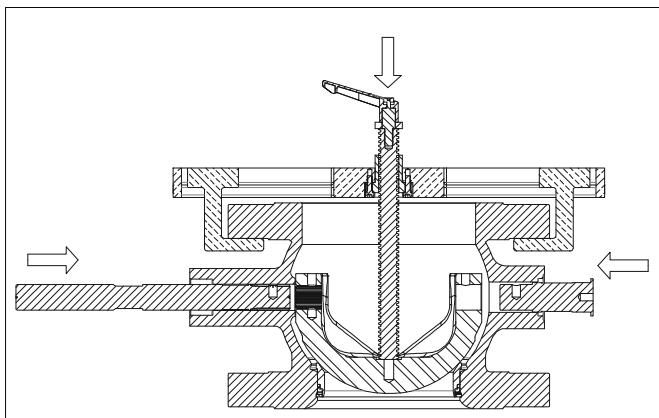
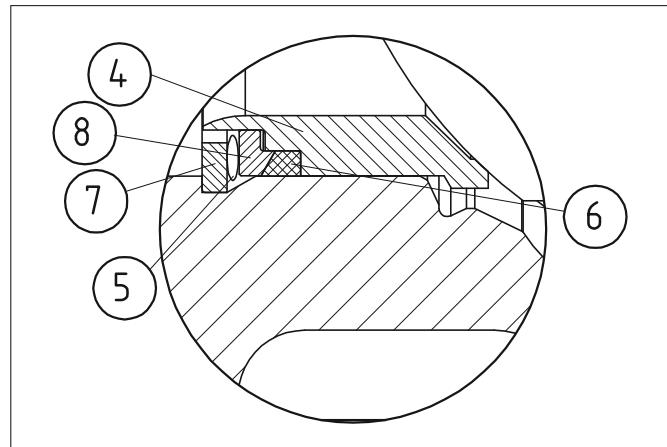

Fig. 33 Installing the shafts
Fig. 34 A-seat
- Detach the retainer plates (30).
- Detach the gland packings (20).
- Remove the shafts (11 and 12), Fig. 33.
- Check if the sealing surfaces of the segment and the seat (4) are damaged.
- For A-seat (Fig. 34), mount the retaining ring (7) to the groove in Body (1). Install back seal (6), support ring (8) and spring (5) to the seat (4). Mount the assembled seat package to the body. Use a plastic spindle to ensure that the seat is correctly placed.
- Mount the segment in the body in the closed position. In the low Cv version, insert the filling ring (22) between the drive shaft (11) and segment (3). Press the segment to fit the shaft (12).
- For A-seat special compression tool is needed for compress the spring to mount the shaft and drive shaft. See Fig. 33.